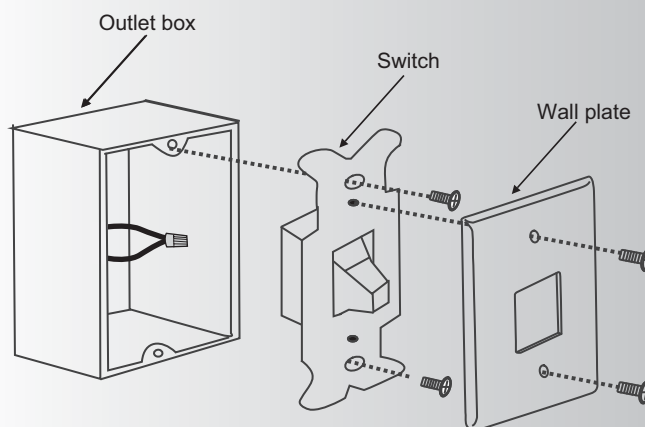

Fig. 24
Step 1. Remove the existing wall plate and the old switch from the wall outlet box. Wire nut the **BLACK** leads (hot) together and push back inside the outlet box. (Fig. 24)